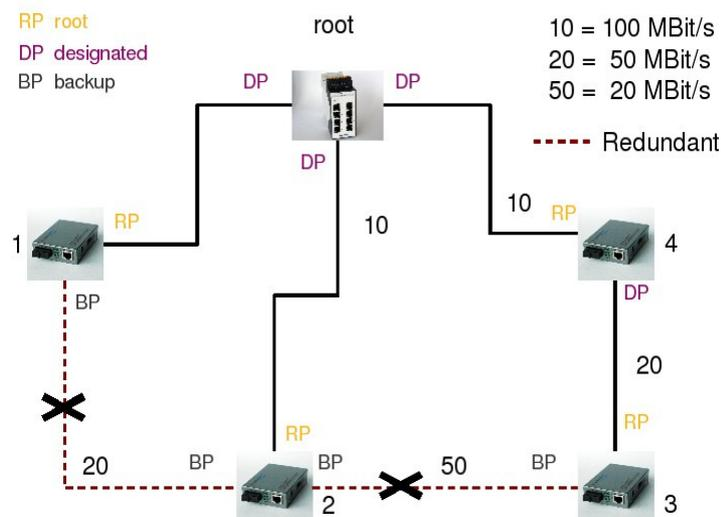

Figure 3.1.: Spanning Tree Topology with one redundant Path.
The network will be transformed from a meshed topology into a tree- (spanning tree) topology. see Figure 3.1.
- 1.1.1.2. **Select the optimal path to the root device:** Every link in the network is provided a cost, depending on physical criteria, such as the data transmission rate. In figure 3.1. we assume the following:
If there is more than one path of a network device to the root node, the connection is switched to the higher cost. This connection can take over the necessary data transfer in the case of a failure. If you follow these rules, for example, the connection marked red in Figure 3.1. can be kept as a spare connection.